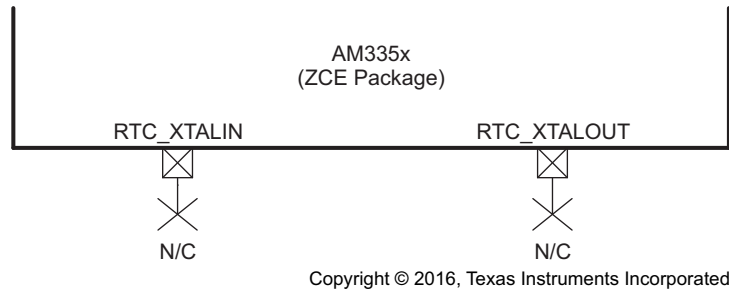
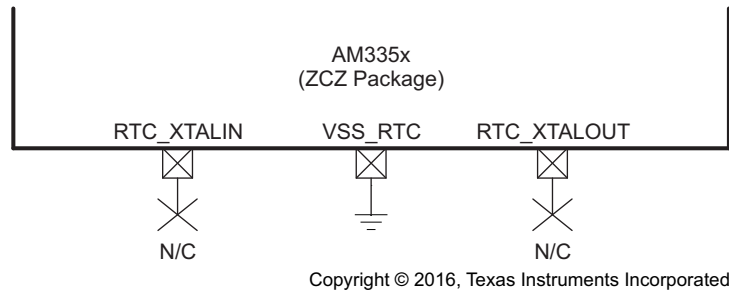

图 6-17. OSC1 (ZCE Package) Not Used Schematic
图 6-18. OSC1 (ZCZ Package) Not Used Schematic
图 6-17 shows the recommended oscillator connections when OSC1 of the ZCE package is not used and 图 6-18 shows the recommended oscillator connections when OSC1 of the ZCZ package is not used. An internal 10-k $\Omega$  pullup on the RTC\_XTALIN terminal is turned on when OSC1 is disabled to prevent this input from floating to an invalid logic level which may increase leakage current through the oscillator input buffer. OSC1 is disabled by default after power is applied. Therefore, both RTC\_XTALIN and RTC\_XTALOUT terminals should be a no connect (NC) when OSC1 is not used.